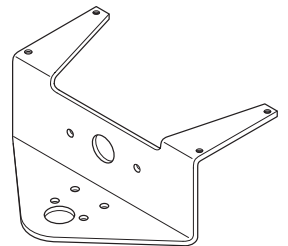

FIGURE 1
3. To under counter mount, choose a mounting surface that will support the weight of the unit. Using mounting bracket DCI PN 4272 (not included), mount to underside of counter utilizing the four pre-drilled holes and appropriate fasteners (see Figure 1). Mount the back chassis assembly to the control unit using the appropriate fasteners.